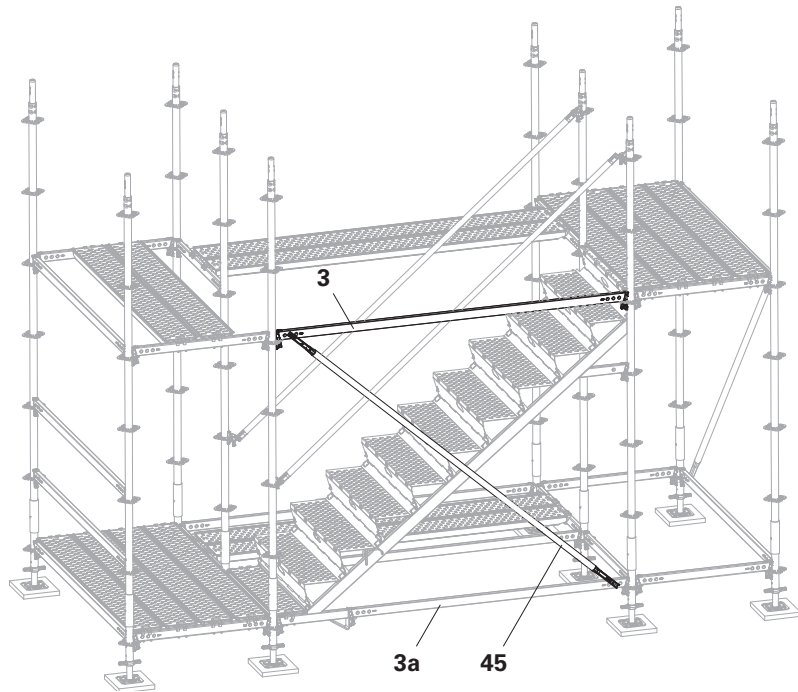

Fig. A2.13
2. Insert the Ledger Brace UBL-2 (**45**) into the lower Horizontal Ledger UH-2 (**3a**) using the mounting finger, insert the tilt finger into the hole of the upper Horizontal Ledger UH-2 (**3**) and turn finger to a transverse position to secure. (Fig. A2.13)